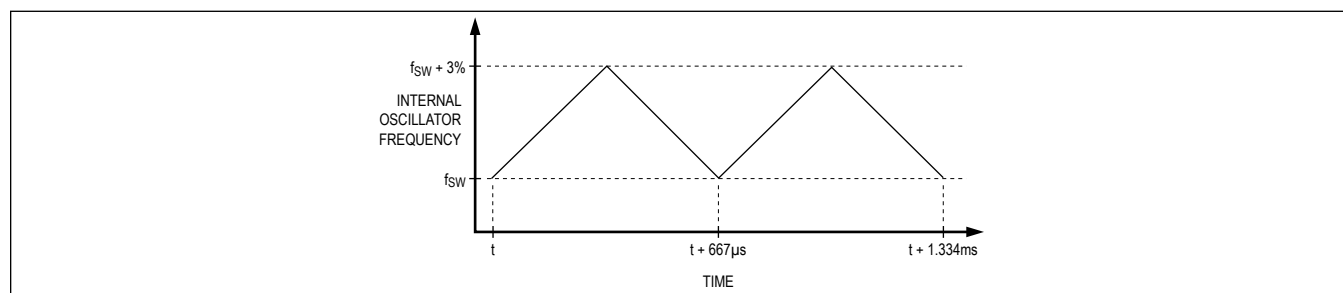

Figure 2. Effect of Spread Spectrum on Internal Oscillator
The PMICs feature a linear spread-spectrum (SS) operation, which varies the internal operating frequency between  $f_{SW}$  and  $(f_{SW} + 3\%)$ . The internal oscillator is frequency modulated at a rate of 1.5kHz with a frequency deviation of 3% (see Figure 2). This function does not apply to an oscillation frequency applied externally through the SYNC pin. Spread spectrum is a factory-selectable option. See the Selector Guide for available options.